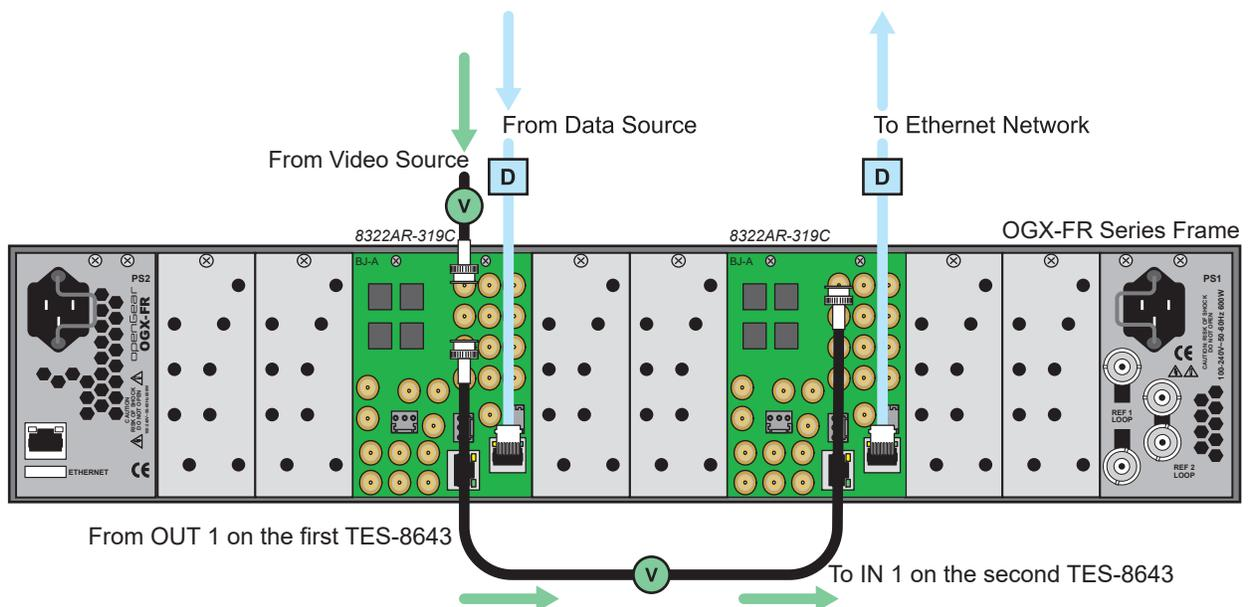

Figure 3 Cabling Overview
3. Connect the **OUT 1** BNC on the first TES-8943(-B) to the **IN 1** BNC on the second TES-8943(-B). See **Figure 3**.
4. Connect the **IN 1** BNC on the first TES-8943(-B) to the video source. See **Figure 3**.
5. Connect the Data Source and the first TES-8943(-B) to the network. See **Figure 3**.
6. Connect the receive computer and the second TES-8943(-B) to the network. See **Figure 3**.